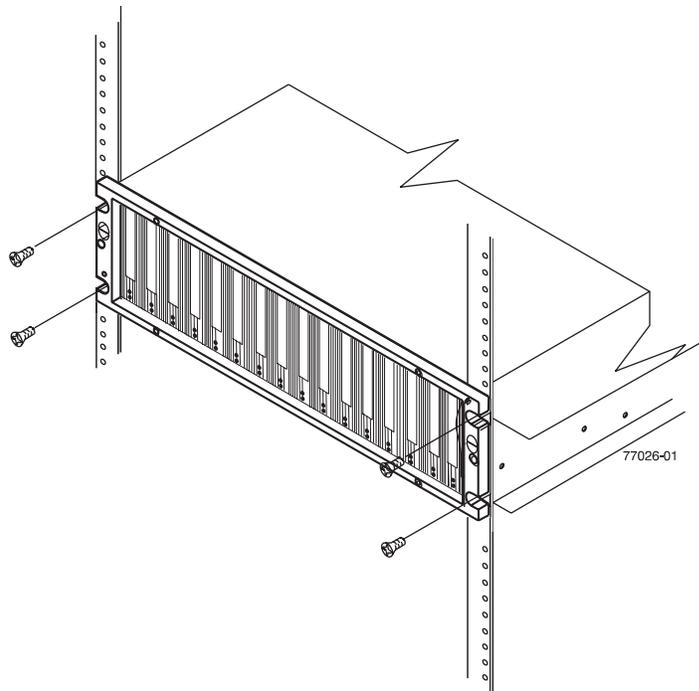

Figure 20. Securing the DS4700 to the rack cabinet
4. Secure the storage subsystem. Figure 20 on page 38 shows how to secure the storage subsystem to the rack.
- c. Secure the front of the DS4700 using the four M5 screws as shown in Figure 20 on page 38.